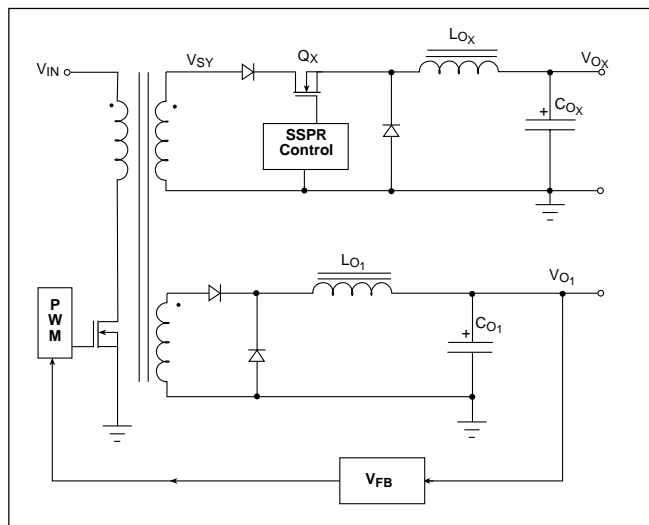

Figure 4. SSPR
4. A Secondary Side Post Regulator (SSPR), Figure 4, uses a semiconductor switch with either leading edge (delayed turn-on) or trailing edge (delayed turn-off) modulation.